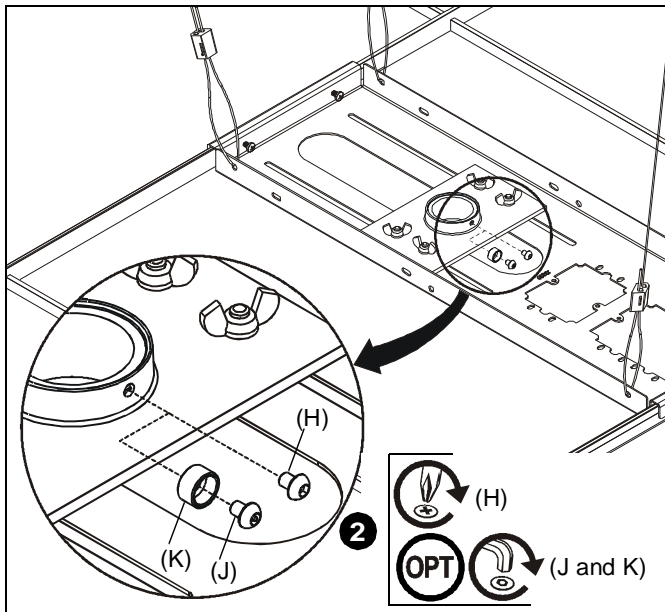

Figure 10
2. Secure extension column by *one* of the following methods (See Figure 10):
- Install one 10-24 x 1/4" Phillips pan head screw (H) into extension column support, tightening firmly against column.
- **OPTIONAL:** Install one 10-24 x 1/4" button head security screw (J) through locking collar (K) into extension column support, tightening firmly against column.